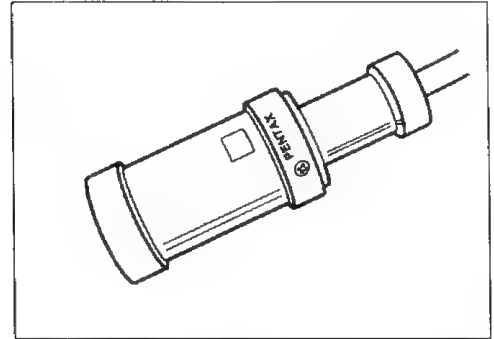

Fig. 55
1. Allow the processor to run for ten (10) minutes after igniting the lamp to stabilize the color temperature.
2. Put the distal end of the video endoscope into the white balance adjuster which is supplied with the processor (Fig 55).